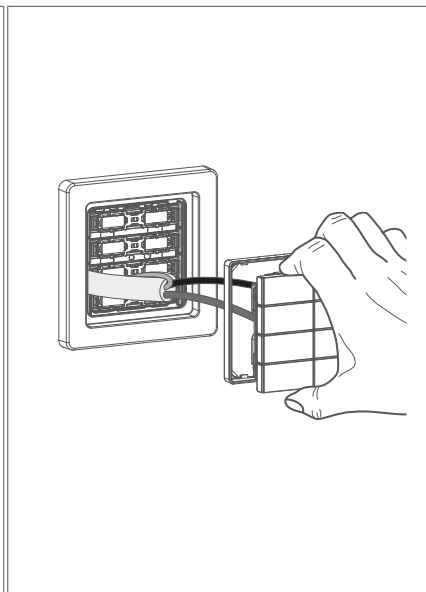

Fig. 19: Removing the device from the supporting ring
- ② Remove the push-button module from the supporting ring. Hold on to the design frame (see Fig. 19).